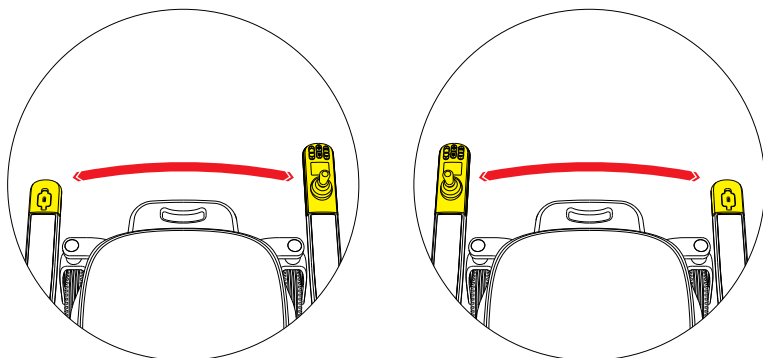

Figure 4.5.1
Step 3, interchange the left and right controllers, connect the harness, insert the left and right controllers into the armrest controller card slot, and use the hexagon wrench to lock the hexagon socket screws. (As shown on Figure 4.5.1)